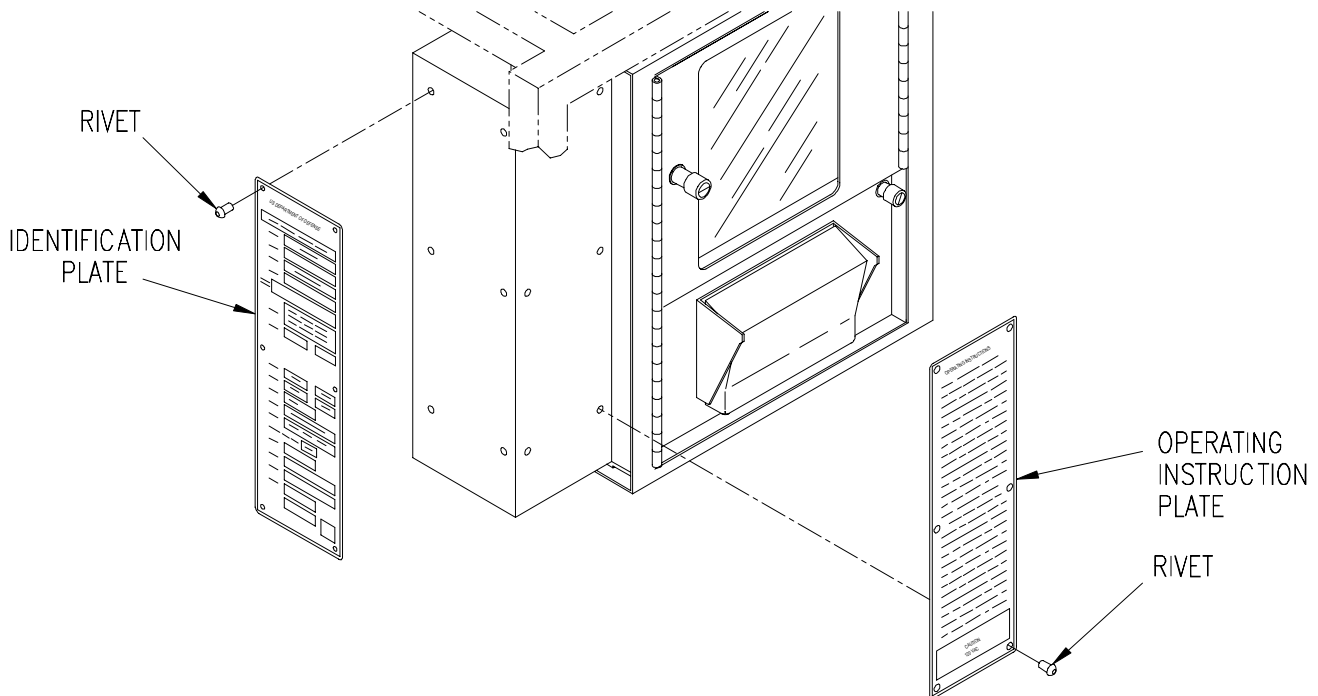

Figure 4-20. Instruction Plate(s)
- (1) Drill out rivets (Figure 4-20) securing instruction plate to control panel assembly.
- (2) Remove instruction plate.
- (1) Using new instruction plate (Figure 4-20) as a template, drill six new 1/16-in. holes in control panel assembly if necessary.
- (2) Secure instruction plate with rivets.